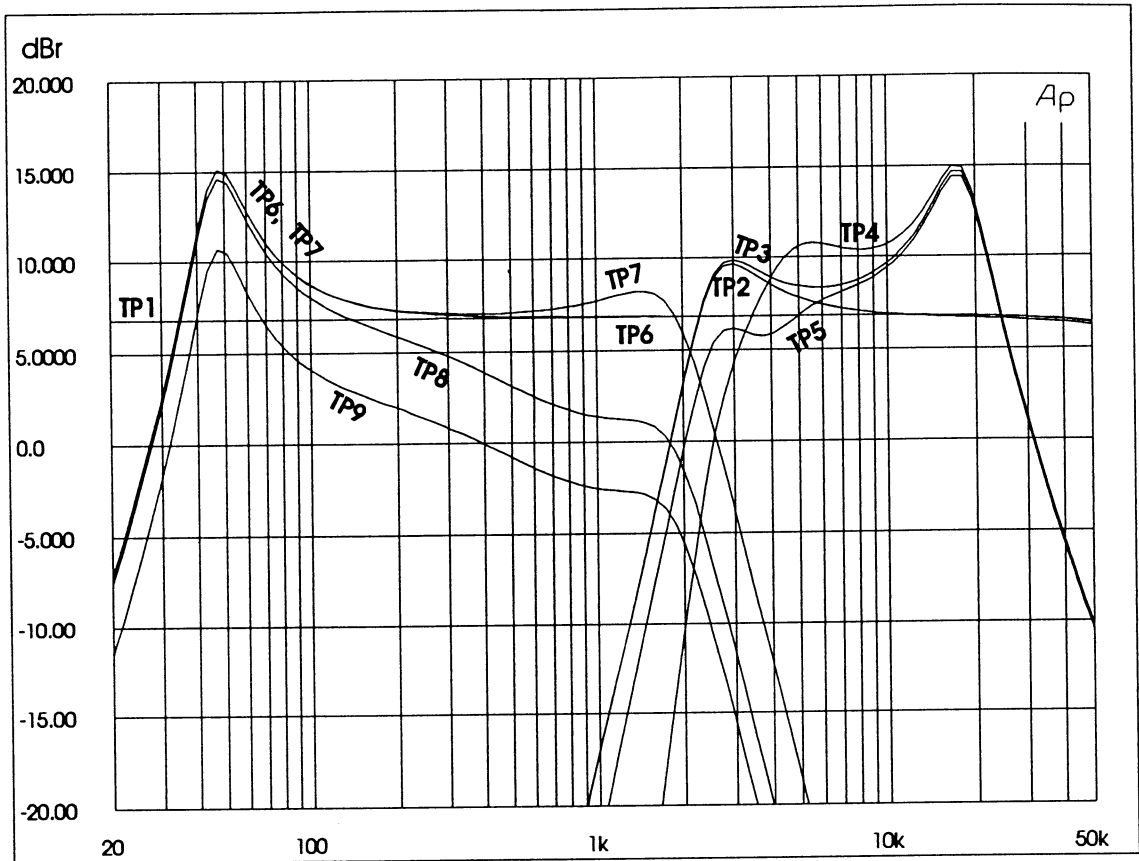
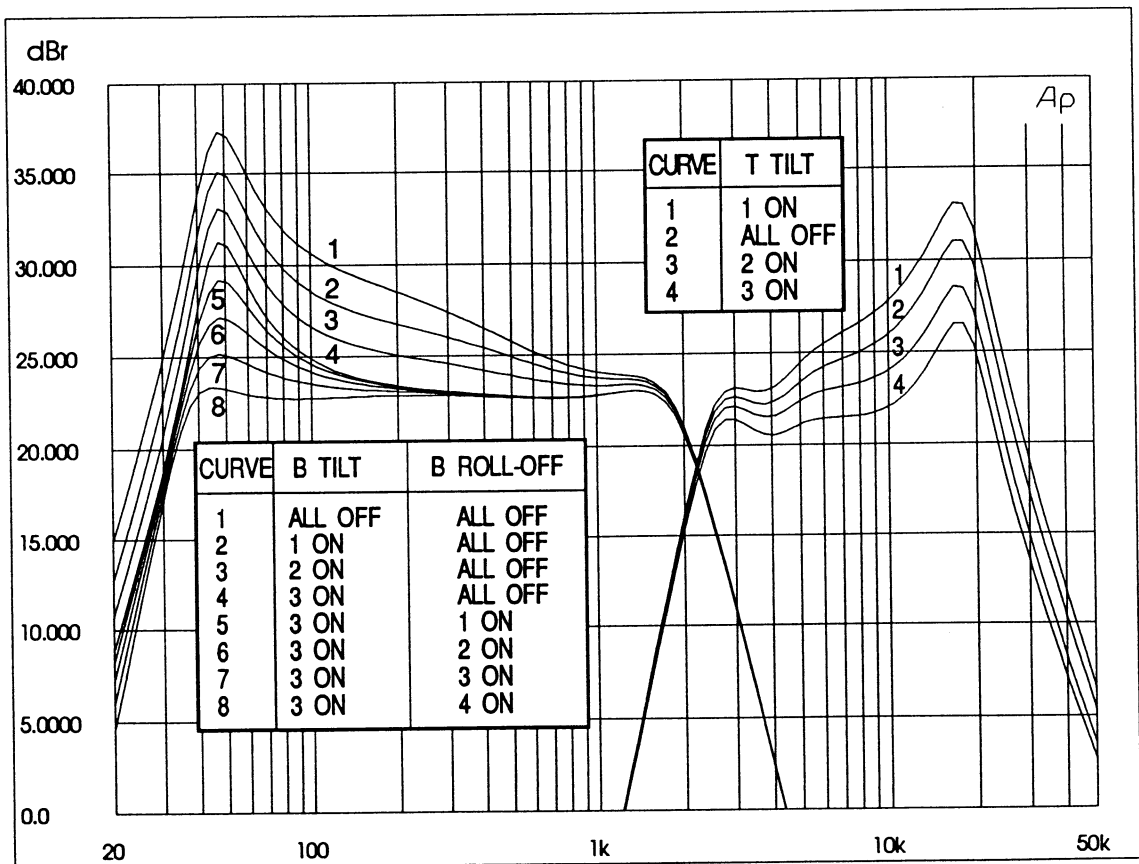
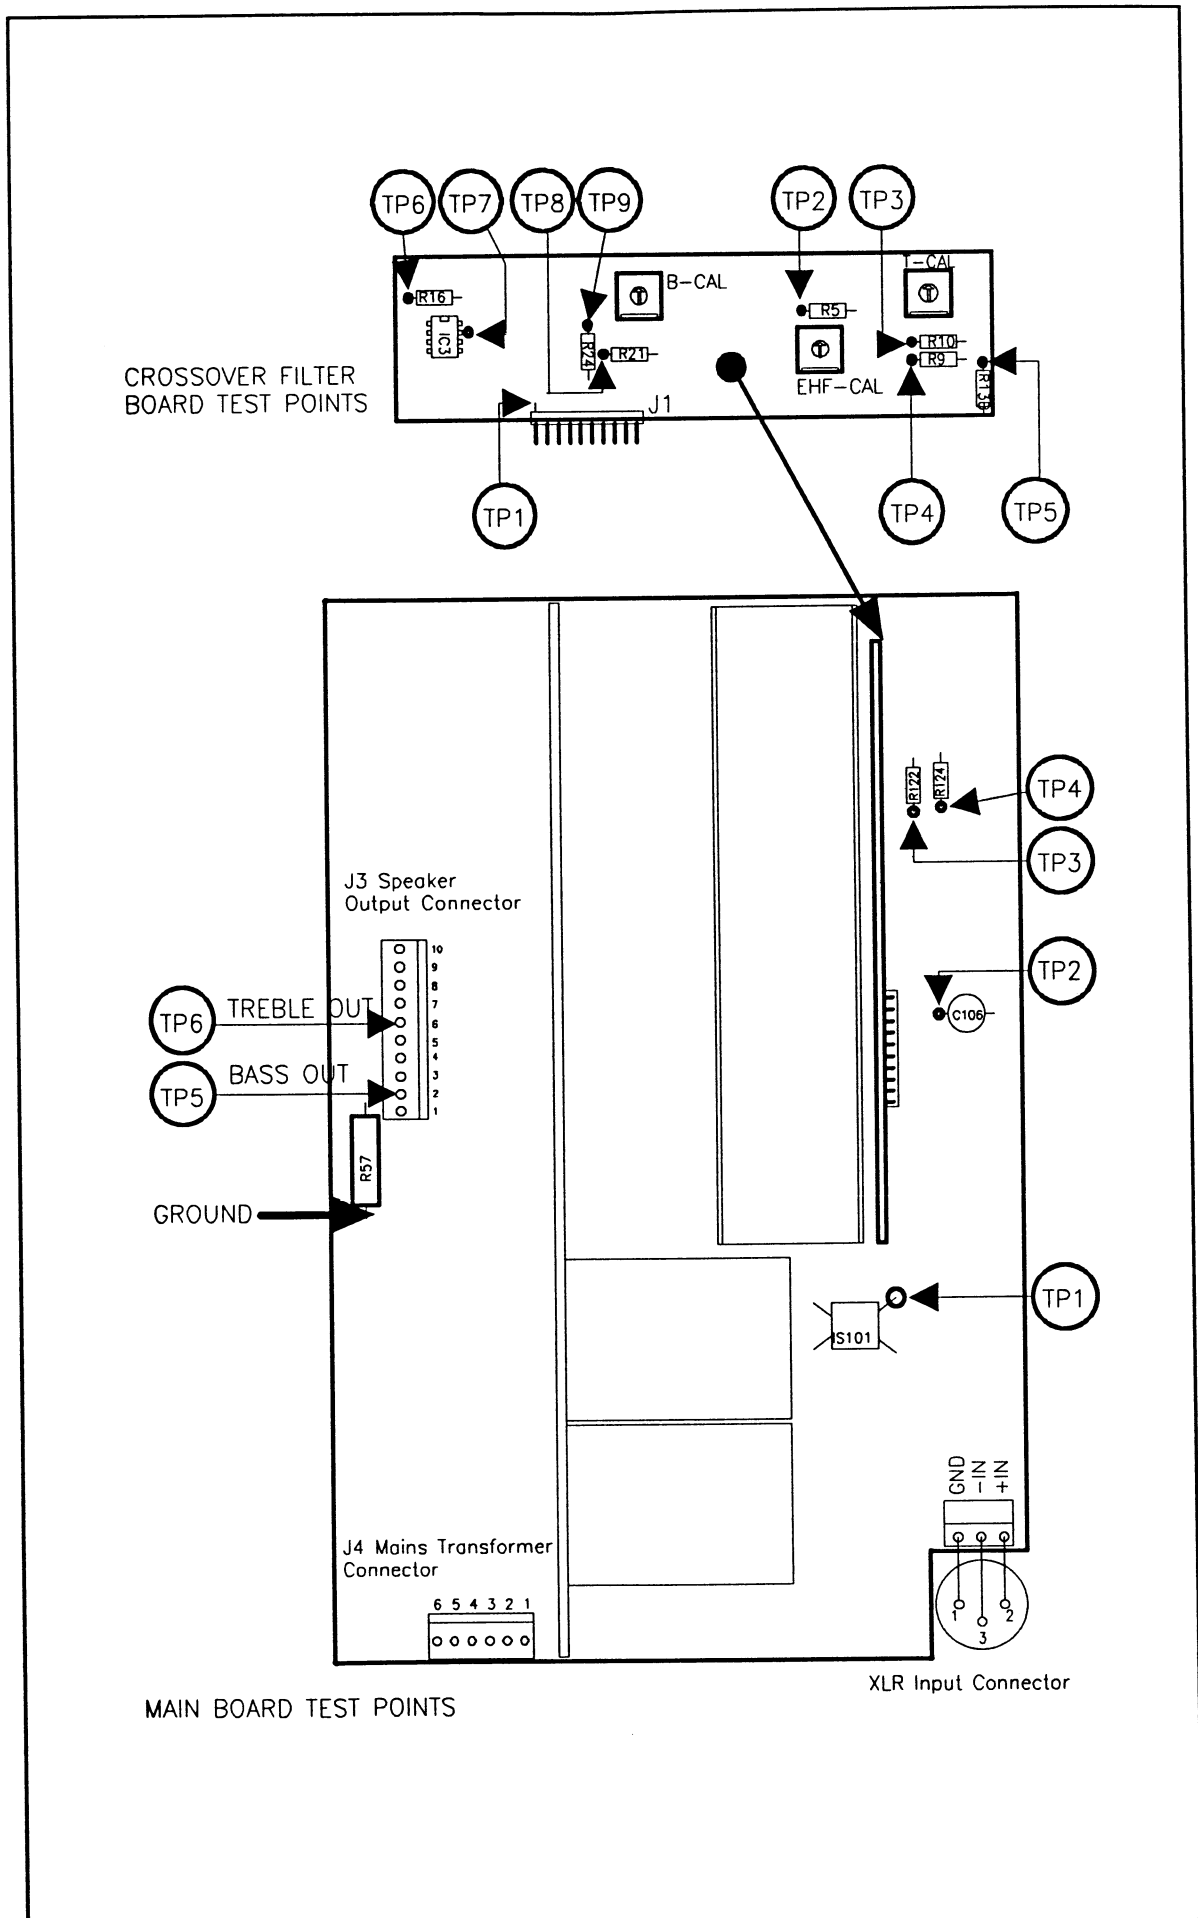

Figure 4.2 Crossover filter response curves
Figure 4.3 Total voltage gain curves and the effect of the crossover controls
Figure 4.4 The location of test points
Troubleshooting information on the 1031A Monitoring System incorporates voltage level values and notes included as part of the circuit diagrams and level diagrams. The curves in figure 4.2 show the frequency responses of crossover filter channels. The vertical scale shows directly the AC voltage gain of bass and treble channels, measured between the XLR-input connector and the test points on the crossover filter board.
Figure 4.3 shows the total voltage gain between XLR input connector and speaker output connector J3 for bass and treble channels. The location of test points is shown in Figure 4.4.
~~Note that the total voltage gain values shown in Figure 4.3 depend~~ Note that the total voltage gain values shown in Figure 4.3 depend on the sensitivity of the driver elements, because the channel gain calibrating trimmers TR1, TR2 and TR3 affect the gain and they are set for flat acoustic response. However, the variation should not be more than a few decibels from the values presented.
- Measure the AC voltage levels at crossover filter test points TP6 ... TP9 (see Figure 4.4) at different bass frequencies between 20 Hz and 3 kHz and compare the results to the values read from the response curves in figure 4.2. If a dB scaled AC voltage meter is available the gain values can be read directly from meter scale after referencing the meter to input level of 100 mV RMS. Otherwise a simple calculation is needed (gain in dB =  $20 \times \log U_{\text{meas}}/0.1V$ ).
- Measure the AC voltage levels at the test points TP2 ... TP5 at different treble frequencies between 1 kHz and 20 kHz and compare the results to the values read from the response curves in figure 4.2.
- Repeat steps above but use the main board test points TP5 (pin 2, bass out) and TP6 (pin 4, treble out) at power amplifier output connector J3. Compare the results to the values read from the response curves in figure 4.3. Be sure that no load is connected to the speaker connector during measurement. Because of negative output impedance used in bass amplifier output, the voltage gain depends on the load impedance.
- Measure the voltage level at the bass power amplifier output (test point TP5 in figure 4.4) with an oscilloscope or RMS voltage meter. Slowly increase the generator output level and see that the power amplifier output level increases accordingly up to 15 V RMS. This corresponds a generator level of 1 V (RMS). Raise the generator level to 2 V (RMS), which corresponds the clipping level of bass power amplifier, and note that the output level does not exceed 15.5 V (RMS).
- Measure the voltage level at the treble power amplifier output (test point TP6 in figure 4.4) with an oscilloscope or RMS voltage meter. Slowly increase the generator output level and see that the power amplifier output level increases accordingly up to 4.5 V RMS. This corresponds a generator level of 230 mV (RMS). Raise the generator level to 1.5 V (RMS), which corresponds the clipping level of treble power amplifier, and note that the output level does not exceed 5 V (RMS).